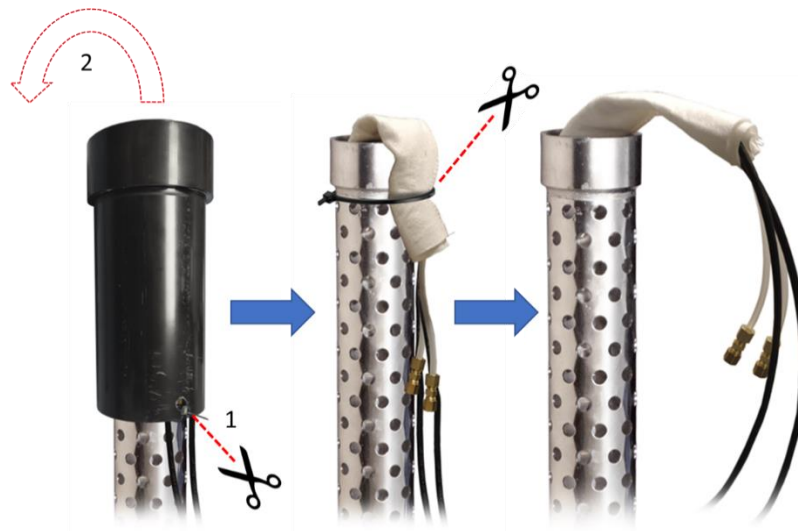

Figure 2: Removal of protective plastic cap to expose polyfluoro sleeve assembly
2. Remove protective plastic cap and cut tie-wraps to loosen the sensor transducer cables and polyvinyl test tubes (Figure 2).